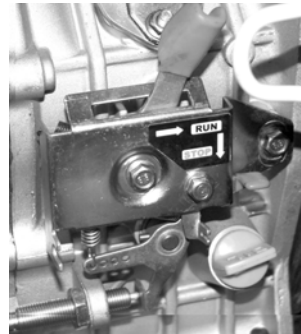

Figure 5
5. Set the engine Run switch to the "on" position (Figure 5).